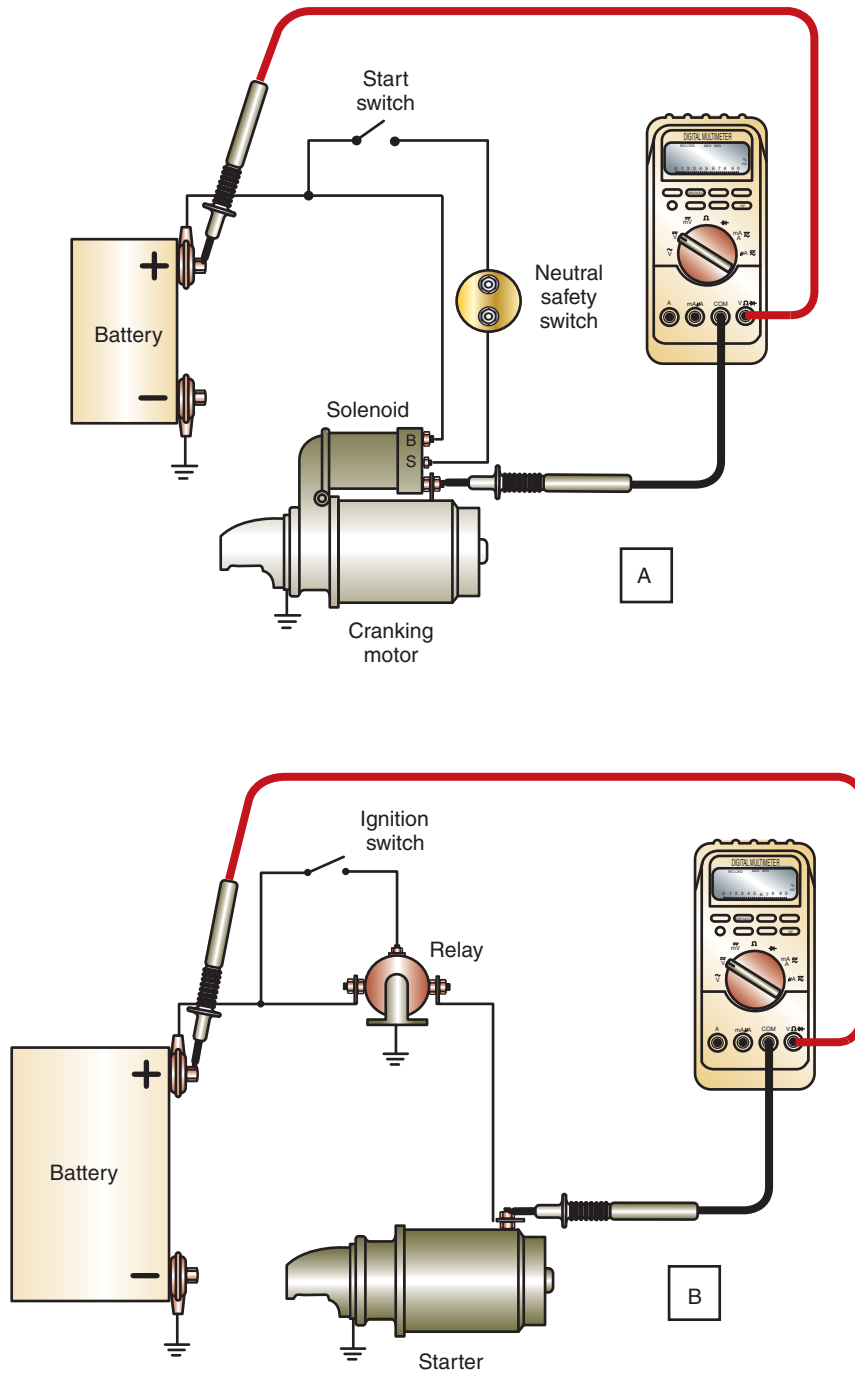

FIGURE 6-11 (A) Test lead connections for a starter mounted solenoid, (B) test lead connections for relay-controlled systems.
1. Connect the test leads as shown (Figure 6-11), depending on the type of system being tested. Usually the positive lead of the voltmeter is connected to the positive battery post and the negative lead is connected to the starter battery (BATT) terminal.